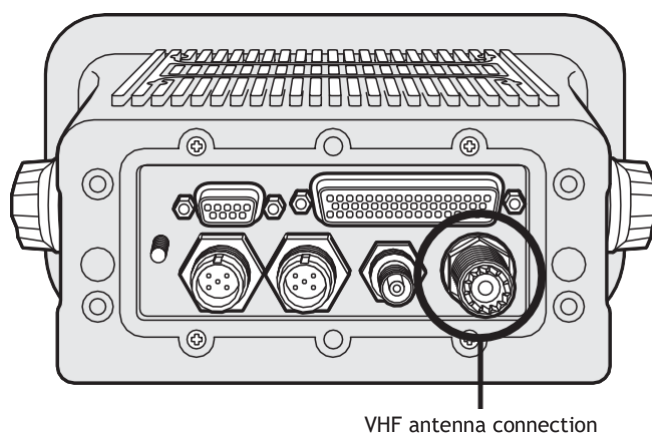

Figure 40 VHF antenna connection
- Connect the VHF antenna cable to the VHF connector on the AIS transceiver as shown in Figure 40.